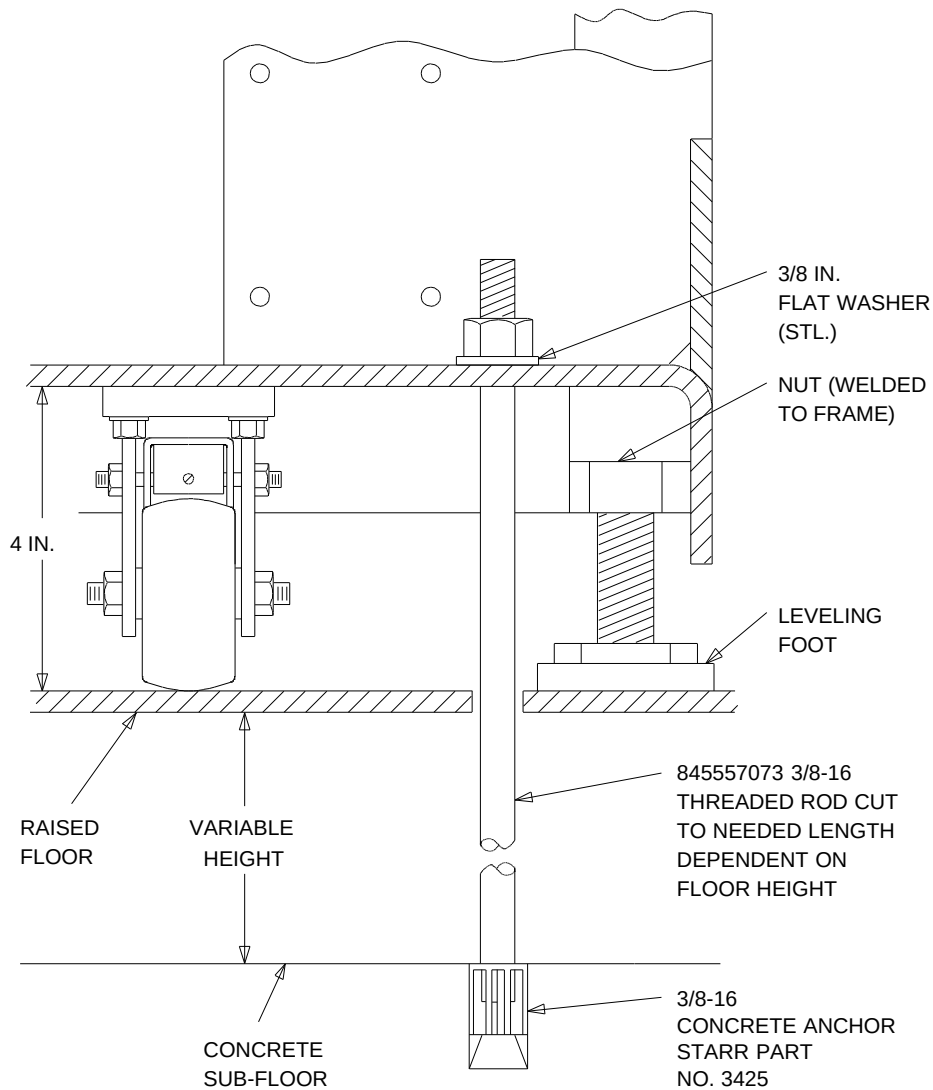

Figure 3-11. Earthquake Mounting—Computer Raised Floor
- j. Fasten the cabinet to the floor (see Figure 3-11).